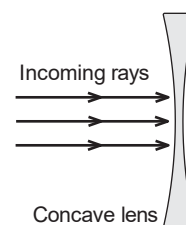

Figure 2
1. Place the light source in ray-box mode on a white sheet of paper. Turn the wheel to select three parallel rays. Shine the rays straight into the concave lens (see Figure 2).